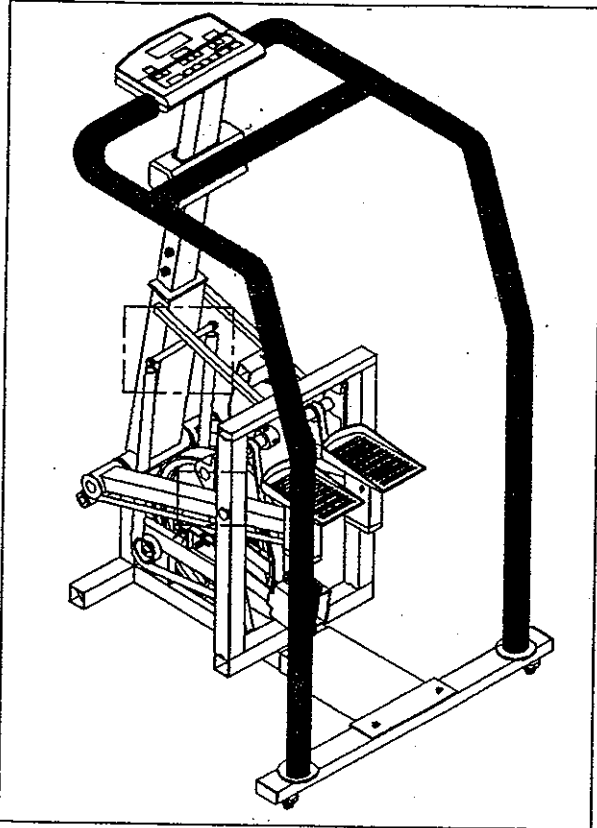
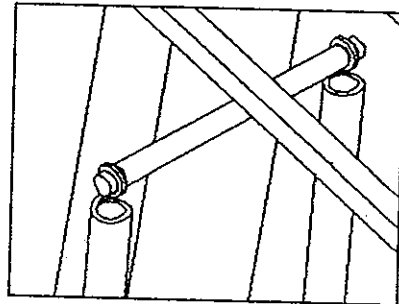

Fig. 19
Fig. 19-2
5. Install the springs (see Fig. 19 to Fig. 19-2).